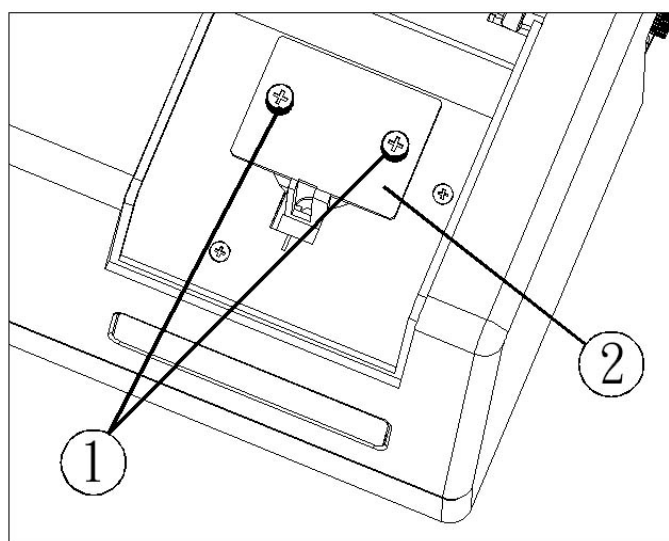
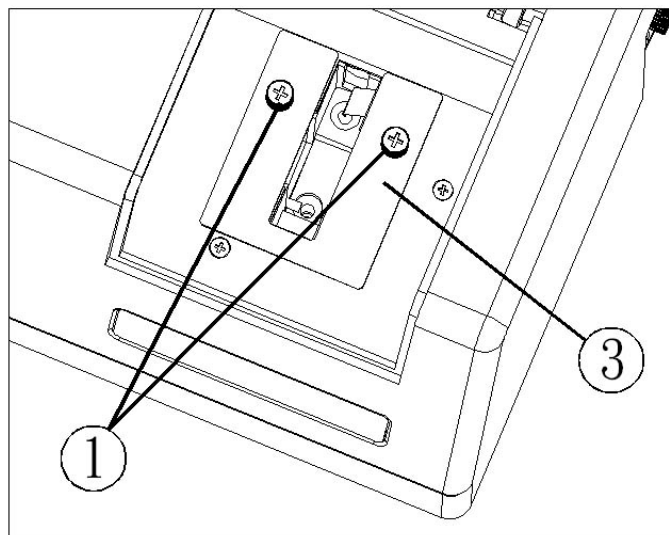

Figure 4a: Standard cell holder for 10 ~ 13 mm cuvettes
Figure 4b: 50 mm rectangular cell holder
7. The standard cell holder is adaptable for 10 mm square cuvette and 1/2" round tube. For 50 mm long-path cell measurement, please unscrewing two white knobs (#1) and removing metal bracket #2 inside the sample compartment as shown in figure 4a, then locate bracket #3 and tighten two knobs again (figure 4b).